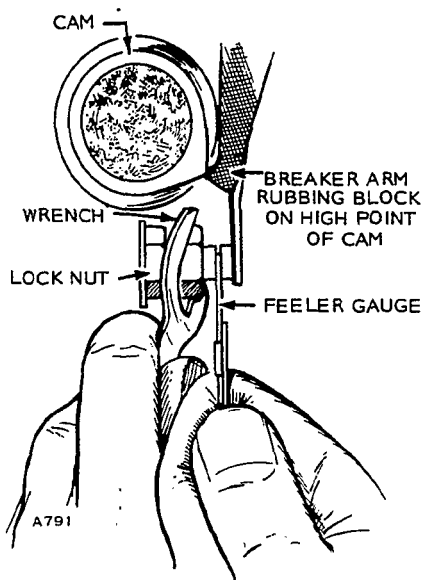

FIGURE 61. POINT ADJUSTMENT
10. Rotate drive shaft to obtain maximum breaker point gap and set gap for .020 in. (Figure 61).